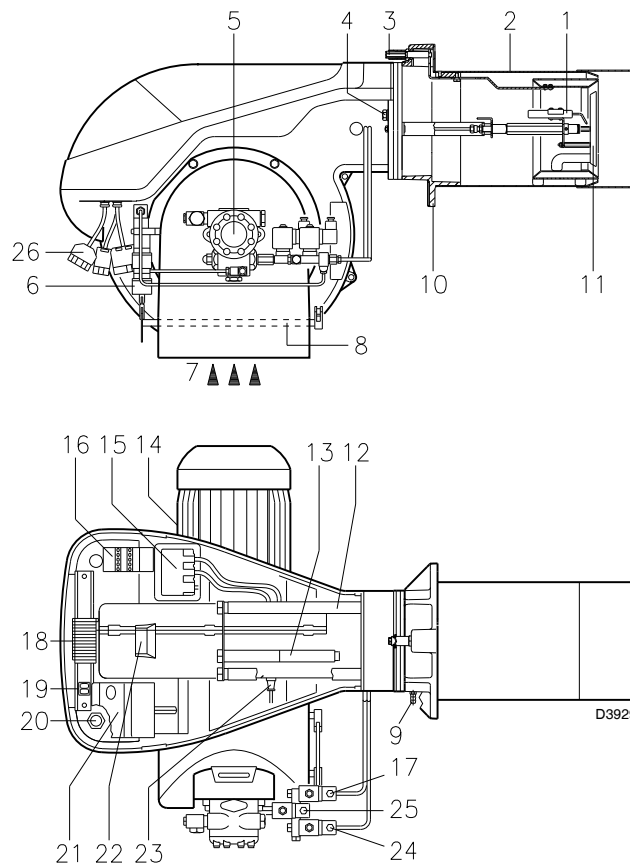

Fig. 5
if the control box 22)(Fig. 5) pushbutton lights up, it indicates that the burner is in lock-out. To reset, press the pushbutton.
release by pressing the pushbutton on thermal relay 16)(Fig. 5).
- 4 - Extensions 13) for slide bars 12)(Fig. 5)